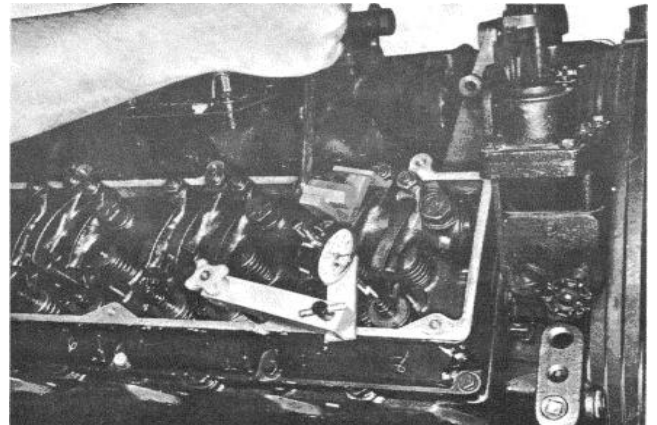

Fig 2-39, (V514128). Bottoming injector plunger in cup - V-903
2. Screw the injector lever adjusting screw down until the plunger is bottomed in the cup, back off approximately 1/2 turn then bottom again, set the dial indicator at zero (0).
4. Using ST-1251 Rocker Lever Actuator, bottom the injector plunger, check the zero (0) setting. Fig. 2-39. Allow the plunger to rise slowly, the indicator must show the plunger travel to be within the range specified in Table 2-10.